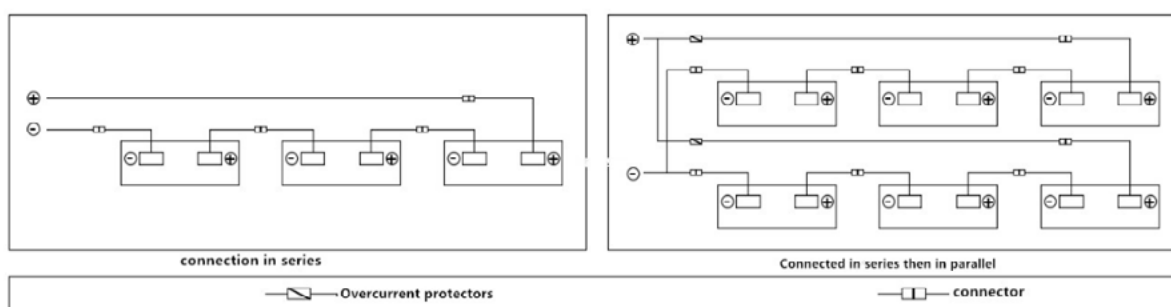

FIGURE 44
- When Galaxy Plus products are connected in series, the total voltage is the sum of voltage of every single Galaxy Plus products in the string, and when Galaxy Plus products are connected in parallel, the final current is the sum of the current of every string of Galaxy Plus products, as shown in Figure 44. Galaxy Plus products of different electrical performance models should not be connected in one string.
- If a reverse current exceeding the maximum fuse current of the Galaxy Plus product may pass through the Galaxy Plus product, an overcurrent protection device of the same size must be used to protect the product. If the number of parallel connections is more than or equal to 2 strings, there must be an overcurrent protection device on each string of the products, as shown in Figure 44.